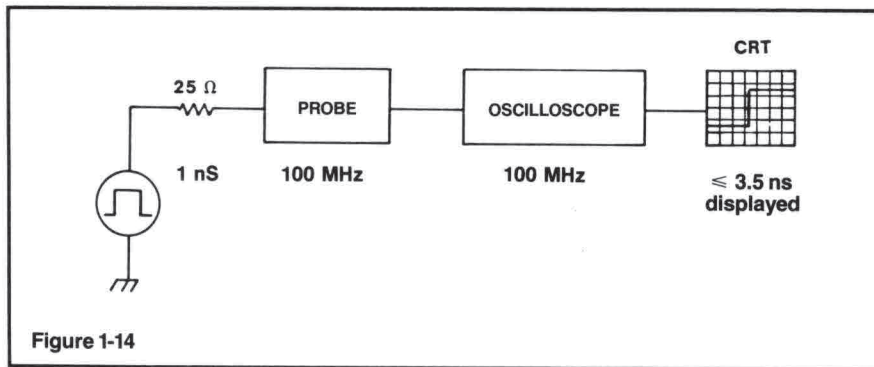

Figure 1-14
Figure 1-14 shows an equivalent circuit of a typical setup. The displayed risetime should be a 3.5 nSec or faster.
**Test Methods:** As with all specifications, matching test methods must be employed to obtain specified performance. In the case of bandwidth and risetime measurements, it is essential to connect the probe to a properly terminated source. Tektronix specifies a 50 ohm source terminated in 50 ohm, making this a 25 ohm source impedance. Furthermore, the probe must be connected to the source via a proper probe tip to BNC adaptor. (Figure 1-14).